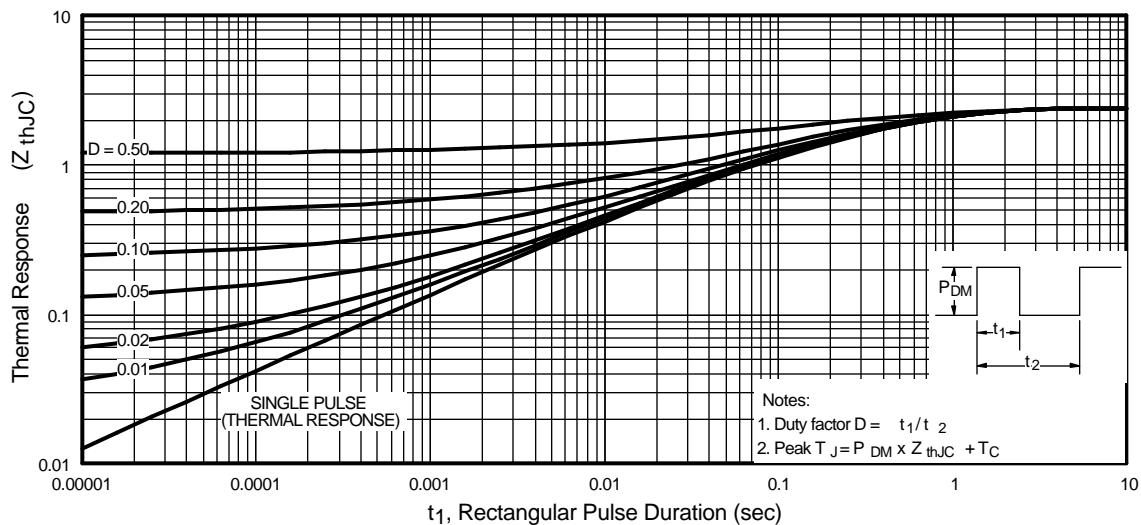

Fig 11. Maximum Effective Transient Thermal Impedance, Junction-to-Case
① Repetitive rating; pulse width limited by max. junction temperature. (See fig. 11)
④ Pulse width $\leq 300\mu\text{s}$; duty cycle $\leq 2\%$.
② Starting $T_J = 25^\circ\text{C}$, $L = 1.3\text{mH}$